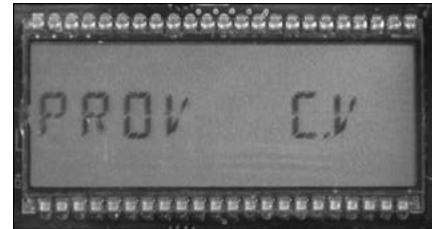

Figure 3 - LCD screen displays PROV C.V
- Swipe the magnet across the "Swipe" line until the screen displays PROV C.V (Figure 3), and then stop swiping.